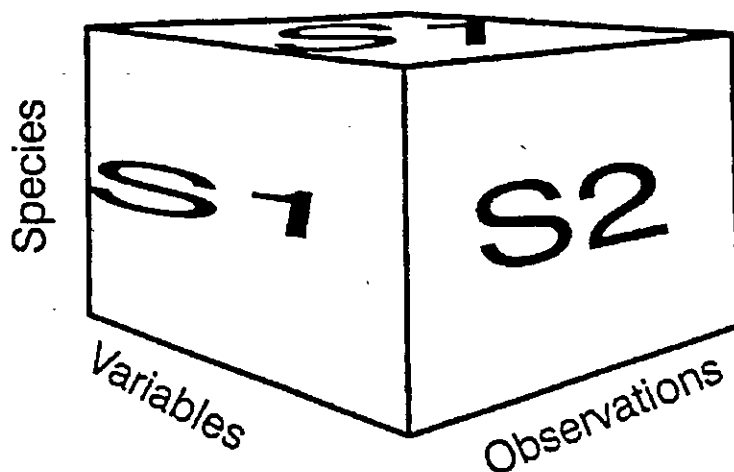

Figure 2.16.
- **The S1 and S2 data view** is actually several data files, one for each component in the system (e.g., S1.H(+), S1.CO3(2-), S1.Ca(2+), etc.). What distinguishes the S1 structure is its column headers: output data is organized in columns of variables (i.e., concentration, logC, logK and %total). Like S1, the S2 data view is also comprised of several component files (e.g., S2.H(+), S2.CO3(2-), etc.); however, S2 organizes the data within columns of chemical species (e.g., HCO3(-), H2CO3, etc.). An alternative way of visualizing the output structure is as a 3-D data space (Figure 2.16). The dimensions of this space are